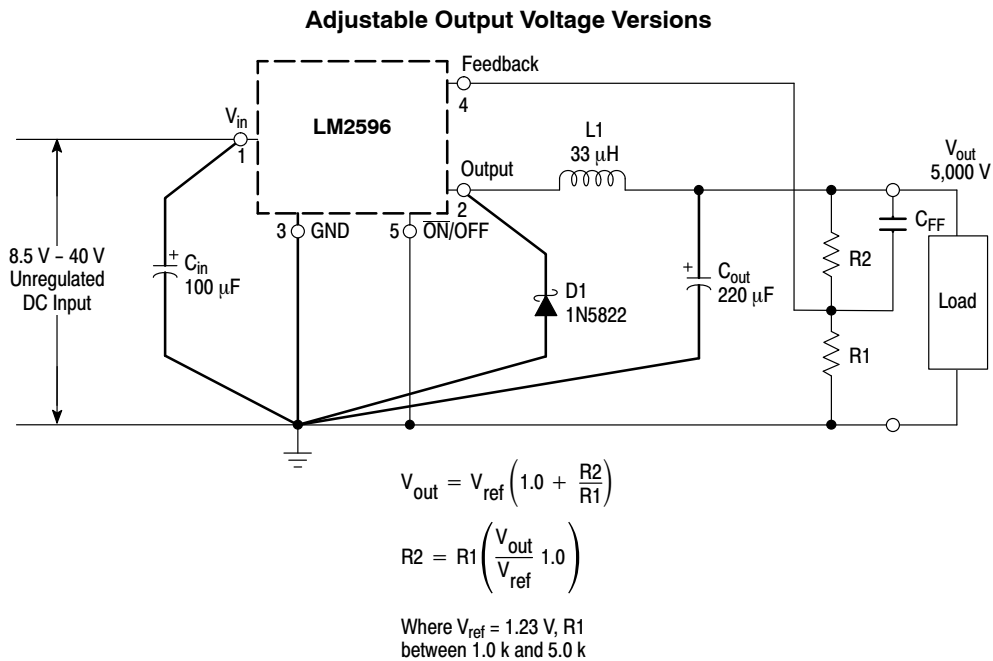

Figure 15. Typical Test Circuit
| LM2596 (Note 1, Test Circuit Figure 15)                                                                                               |               |                      |            |                      |               |
- External components such as the catch diode, inductor, input and output capacitors can affect switching regulator system performance. When the LM2596 is used as shown in the Figure 15 test circuit, system performance will be as shown in system parameters section.
TYPICAL PERFORMANCE CHARACTERISTICS (Circuit of Figure 15)
## TYPICAL PERFORMANCE CHARACTERISTICS (Circuit of Figure 15)
### TYPICAL PERFORMANCE CHARACTERISTICS (Circuit of Figure 15)
As in any switching regulator, the layout of the printed circuit board is very important. Rapidly switching currents associated with wiring inductance, stray capacitance and parasitic inductance of the printed circuit board traces can generate voltage transients which can generate electromagnetic interferences (EMI) and affect the desired operation. As indicated in the Figure 15, to minimize inductance and ground loops, the length of the leads indicated by heavy lines should be kept as short as possible.